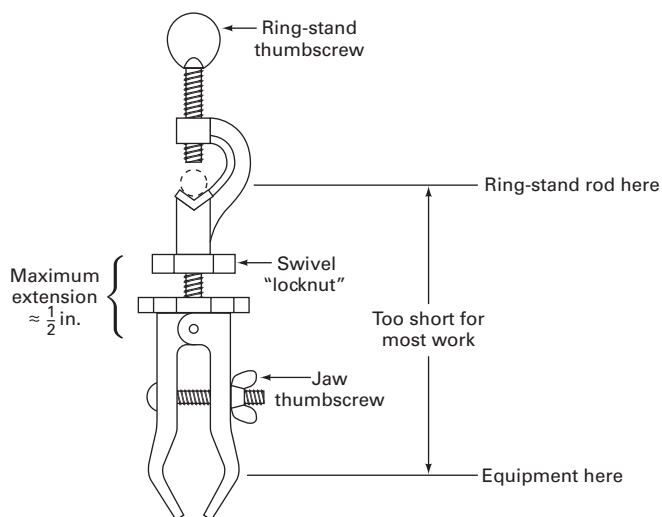

FIGURE 18.1 The "barely adequate for organic lab" buret clamp.
1. **The simple buret clamp** (Fig. 18.1). Though it's popular in other chem labs, the simple buret clamp just doesn't cut it for organic lab. The clamp is too short, and adjusting angles with the locknut (by loosening the locknut, swiveling the clamp jaws to the correct angle, and tightening the locknut against the *back* stop, away from the jaws) is not a great deal of fun. If you're not careful, the jaws will slip right around and all the chemicals in your flask will fall out.